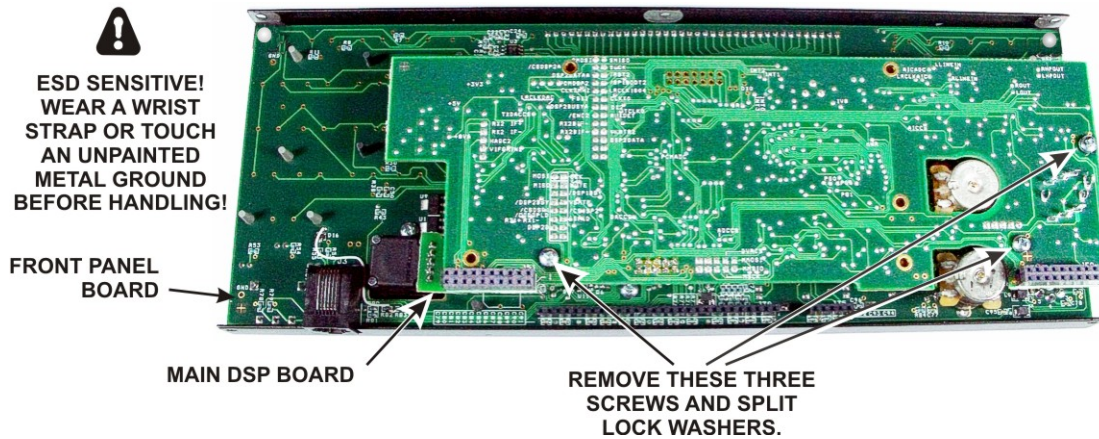

Figure 8. Removing DSP Board Assembly.
Remove the three screws and split lock washers shown in Figure 8. Depending upon the options you have installed there may be hardware filling the other holes. Remove only the three screws shown.
- Replace the three 4-40 1/4" (6.4 mm) zinc pan head screws you removed earlier with a **split** lock washer under each screw head (see Figure 8 on page 4). Do not use inside tooth lock washers here.